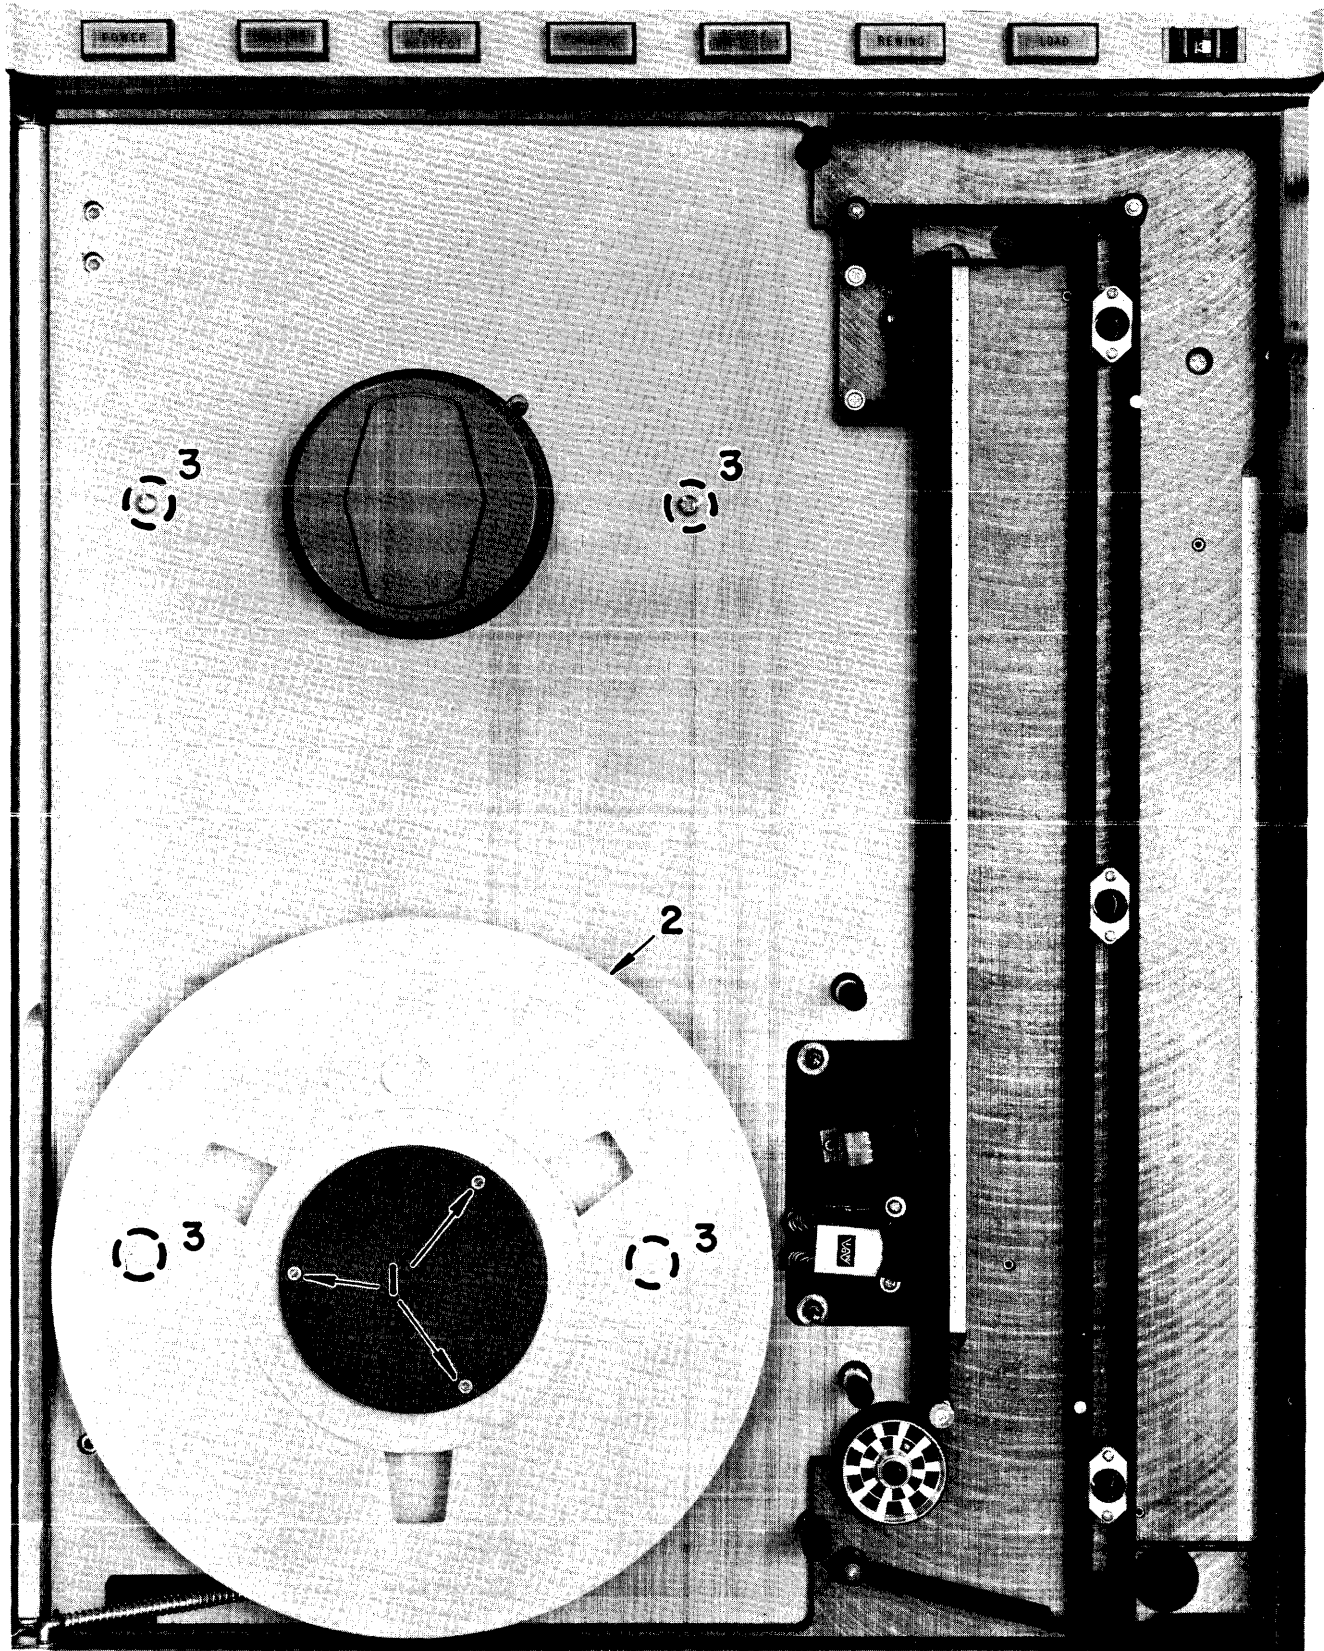

Figure 35. Deck Overlay Removal
Remove the three screws (item 1, Figure 35) from the reel cover. Remove the reel (item 2, Figure 35).
3. Loosen, but do not remove the four overlay screws (item 3, Figure 35).